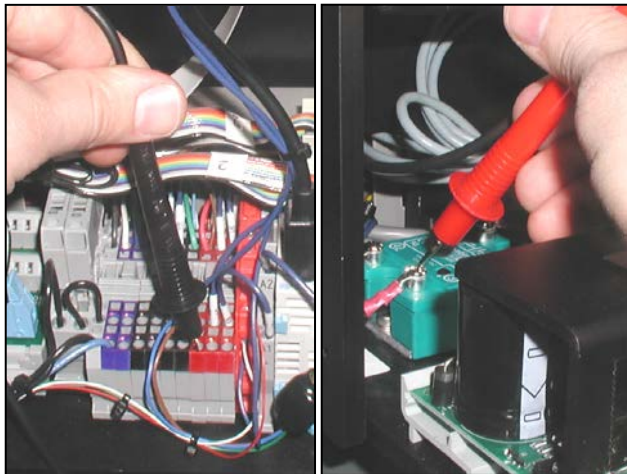

Figure 3-99. Pin 3 on Solid State Relay
5. Set your DVOM to a range capable of measuring continuity. Contact the black probe to the red colored terminal block in the electrical area and the red probe to the number 3 contact on the Solid State Relay as shown in (Figure 3-99). The DVOM should indicate continuity.